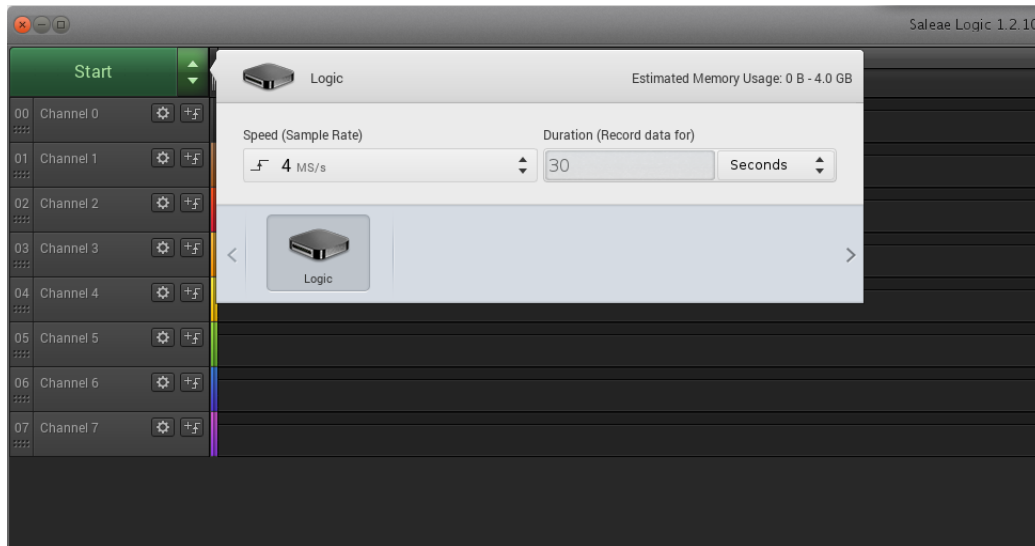

Figure 6.1: Setting the Sample Rate in Saleae Logic
**Connect the pins to analyse** - We have two, so we'll use channel 1 and 2 in our example. Now configure the sampler as in Figure 6.1. This will work for most UART implementations in the wild.